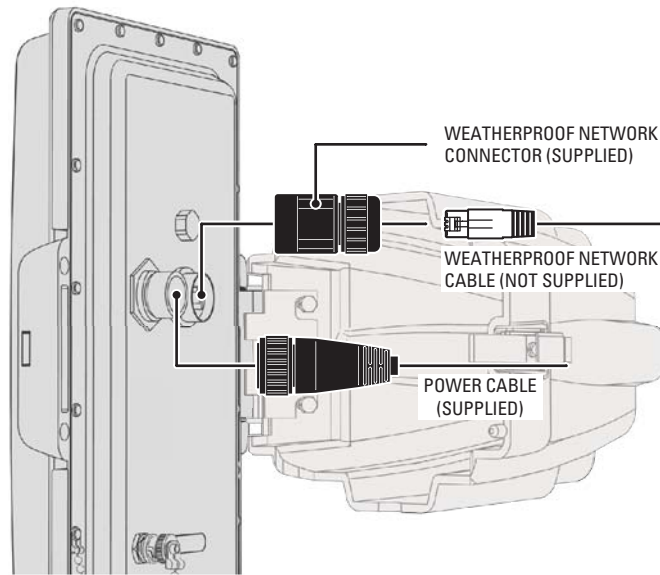

Figure 14. Connecting Cables to the EW5001
9. Connect all cables (refer to Figure 14):